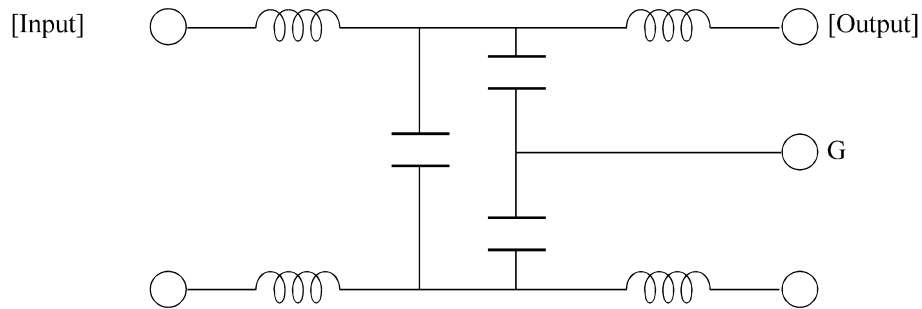

Figure 4.8 AC noise filter
- Circuit construction: T-configuration as shown in Figure 4.8 is recommended.